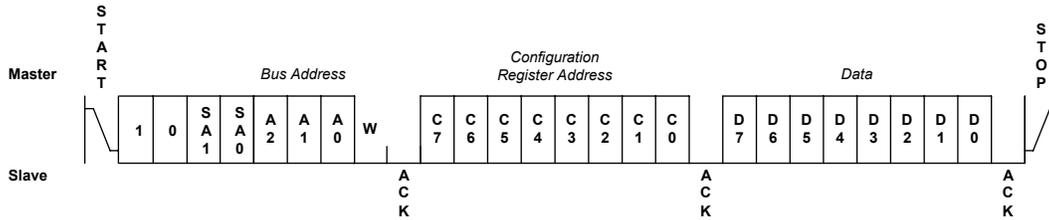

Figure 14 – General Purpose Memory Byte Write
The 256-byte general-purpose memory is located at any slave address. The bus address bits are hard wired by the address pins A2, A1 and A0. They can be tied low, high or left floating, (Z). Memory writes and reads are shown in Figures 14, 15 and 16.